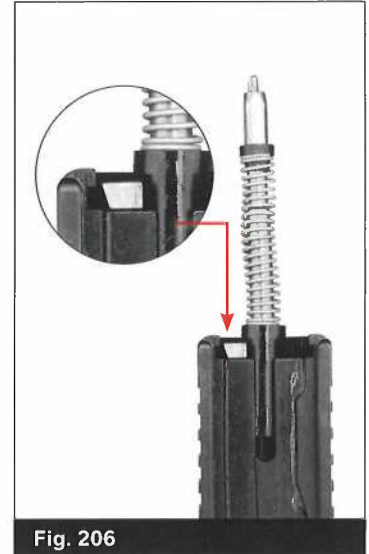

Fig. 206
- Use the slide to assist you in disassembling the firing pin assembly. Install the firing pin assembly upside down into the firing pin channel cut and turn the lug to one side. This will secure the assembly and assist you in removing the spring cups and firing pin spring. (Fig. 206)